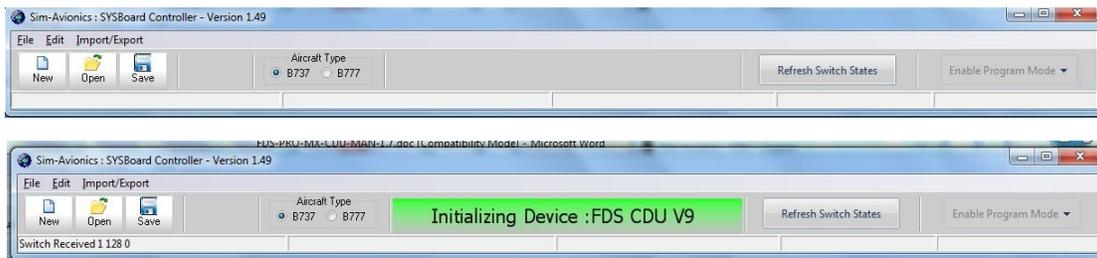

Fig.7
- 3) Software will open. (Fig.7)